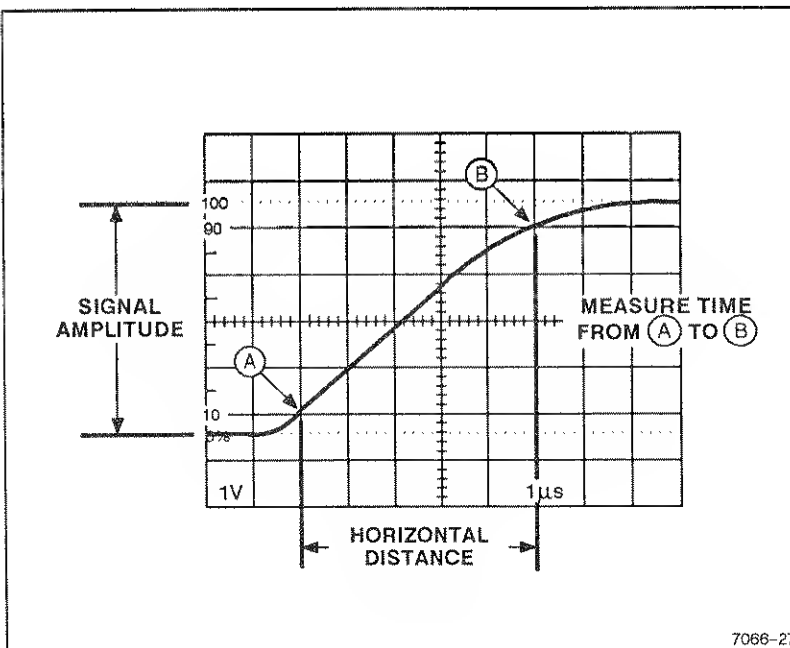

Figure 6-6. Rise time.
Rise-time measurements use the same methods as time duration, except that the measurements are made between the 10% and 90% points on the leading edge of the waveform (see Figure 6-6). Fall time is measured between the 90% and 10% points on the trailing edge of the waveform.
4. Adjust vertical positioning so that the zero reference of the waveform touches the 0% graticule line and the top of the waveform touches the 100% graticule line (see Figure 6-6).
6. Horizontally position the display so the 10% point on the waveform intersects the second vertical graticule line (see Figure 6-6, Point A).
EXAMPLE: The horizontal distance between the 10% and 90% points is 5 divisions (see Figure 6-6), and the A SEC/DIV switch is set to 1 μs . The X10 magnifier knob is pushed in (1X magnification).